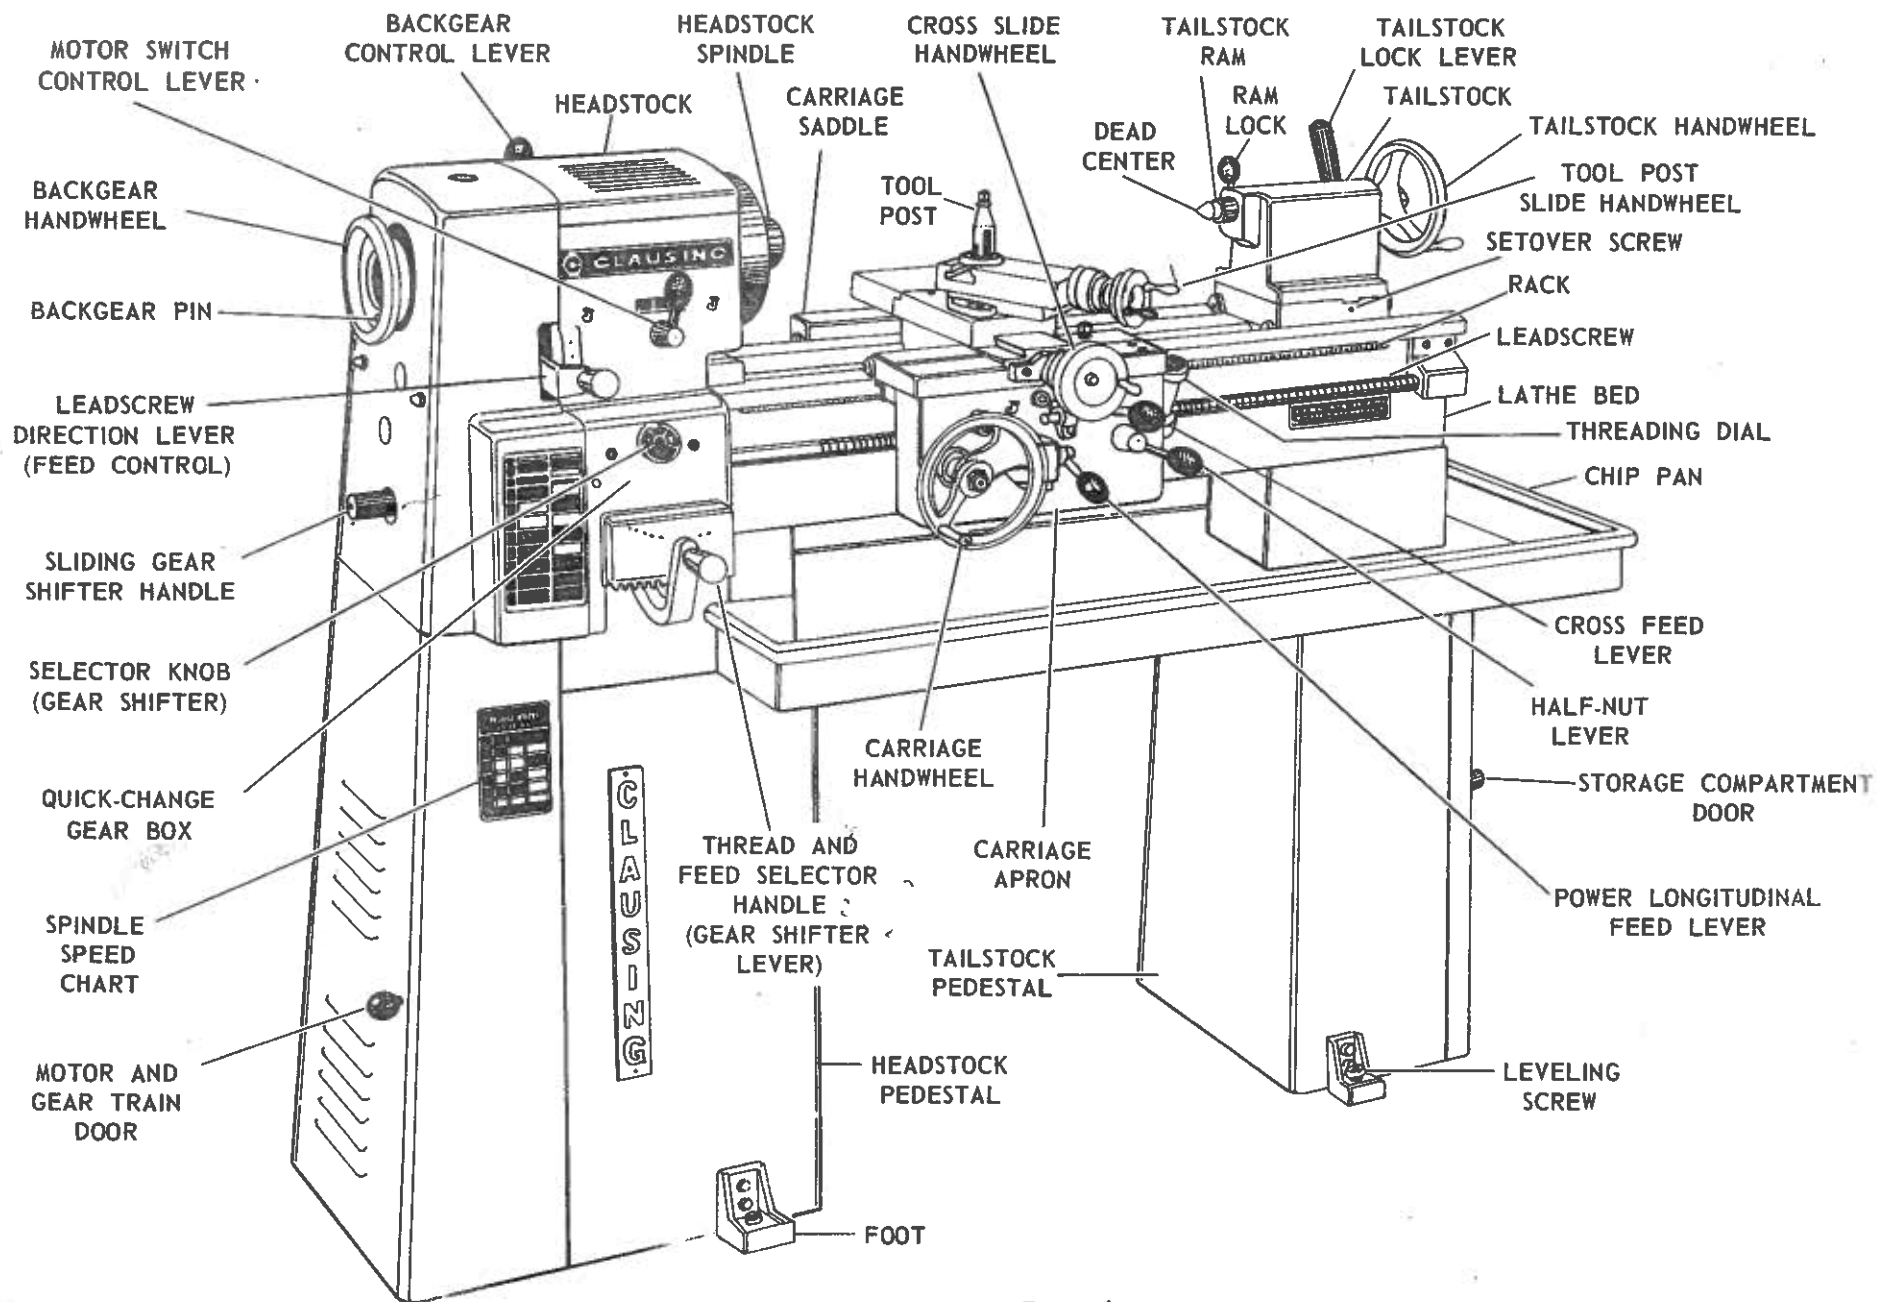

Figure 4
1. Move drum switch to stop position -- refer to figure 4.